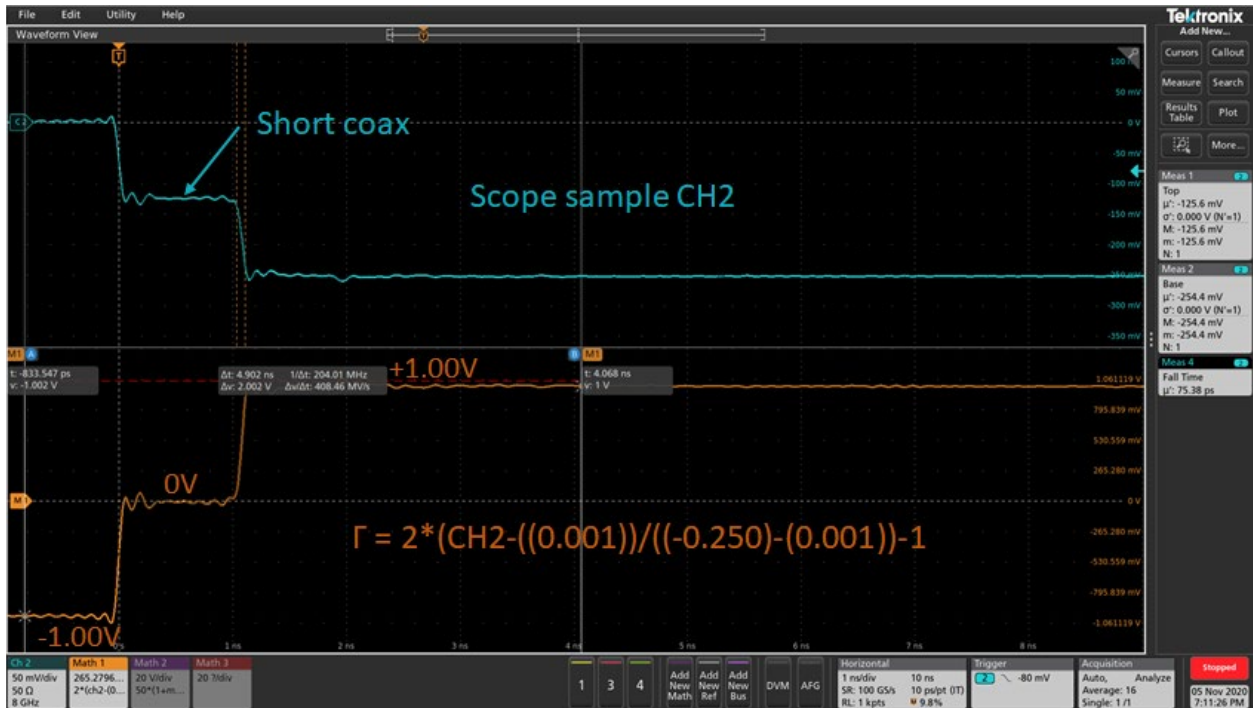

Fig. 7 - TDR Setup - Short, Open, Load.
In order to set up the TDR on the oscilloscope, we first need to scale the actual input pulse to a +/- 1V signal, which is also defined as the reflection coefficient ( $\Gamma$ ). Polarity of the actual input pulse is arbitrary. In other words,  $\Gamma$  needs to meet the specific criteria for open, 50 $\Omega$  match, short to ensure it is set appropriately before we use  $\Gamma$  to calculate our impedance. This is demonstrated by referencing EQ (17), and shown in Figure 7. Further, discussion on this topic is demonstrated in Picotest's Master the Fundamentals of Power Integrity and Power Supply Testing, Lesson 12: TDR Measurements [14]. With reference to EQ (17), ideally the 0.0mV would be zero and the 250mV would be 250.00mV. However, that is not always the case, which is how we can add some calibration on the received pulse from the J2154A by appropriately scaling  $\Gamma$  before calculating impedance. This calibration can be observed in the equation depicted on Figure 7.
As shown in Section 3, the reflection coefficient Gamma ( $\Gamma$ ) was calculated by EQ (17) and shown in Figure 7.